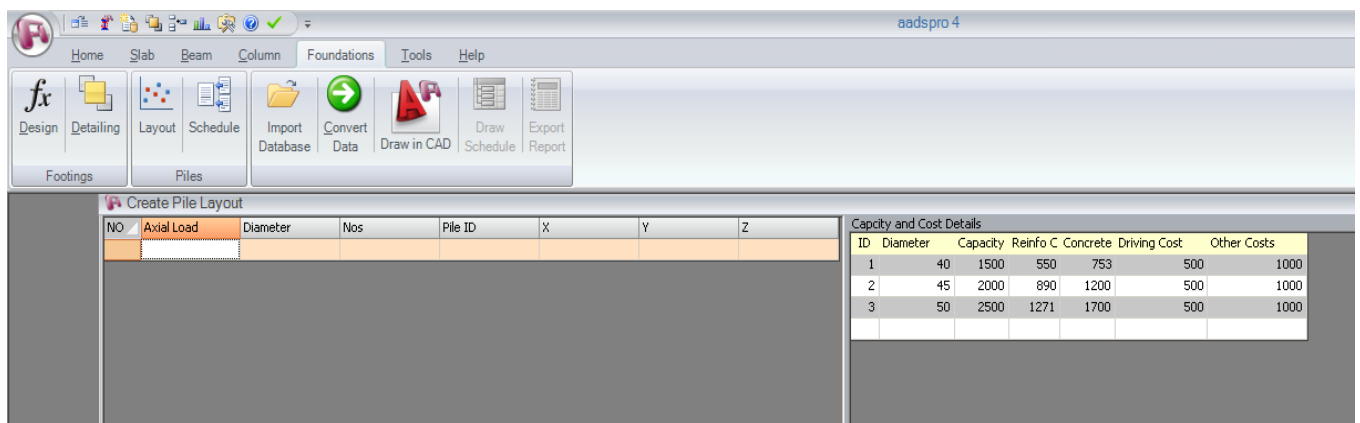

Fig 5.1.3
- Click on the Layout from tool bar (fig5.1.3)